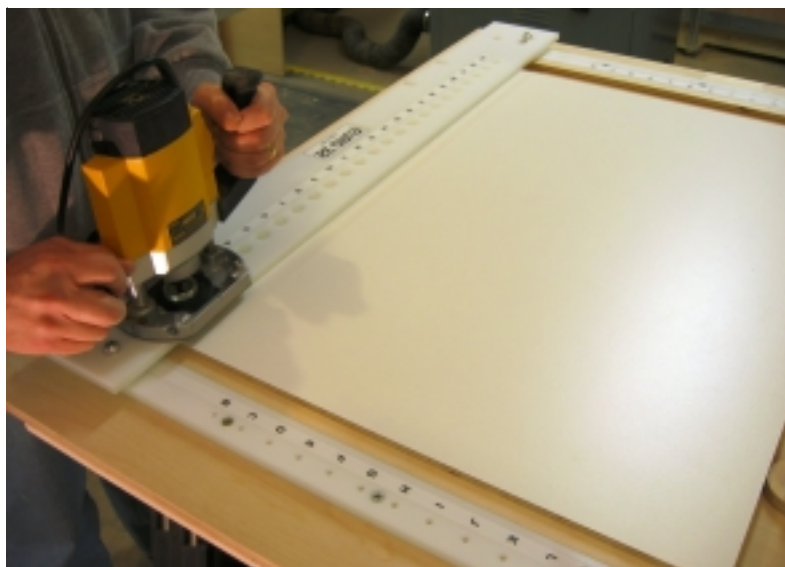

Figure 28
7. Position the router's guide bushing in the hole labeled "1" as shown in Figure 28, turn on the router and plunge the bit into the work-piece and then raise the router back into its upper most position. **WARNING! FAILURE TO BRING THE ROUTER TO ITS UPPER MOST POSITION BEFORE MOVING ONTO THE NEXT HOLE COULD CAUSE DAMAGE TO THE TEMPLATE AND POSSIBLY TO YOURSELF.**